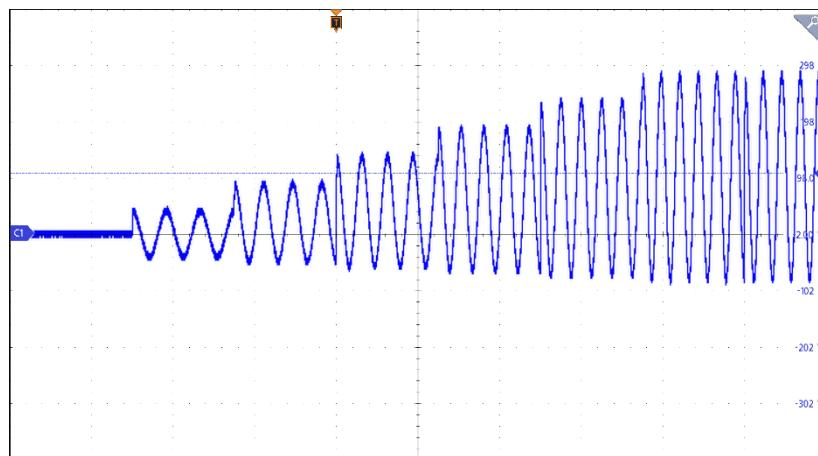

Figure 5-18 Step Mode Setting Page (Example Output Waveform for Phase 1)
3. After setting the parameters, tap the Home key **Home**, then press **TRIG. ON** to trigger the output. The output waveform is shown in Figure 5-18.